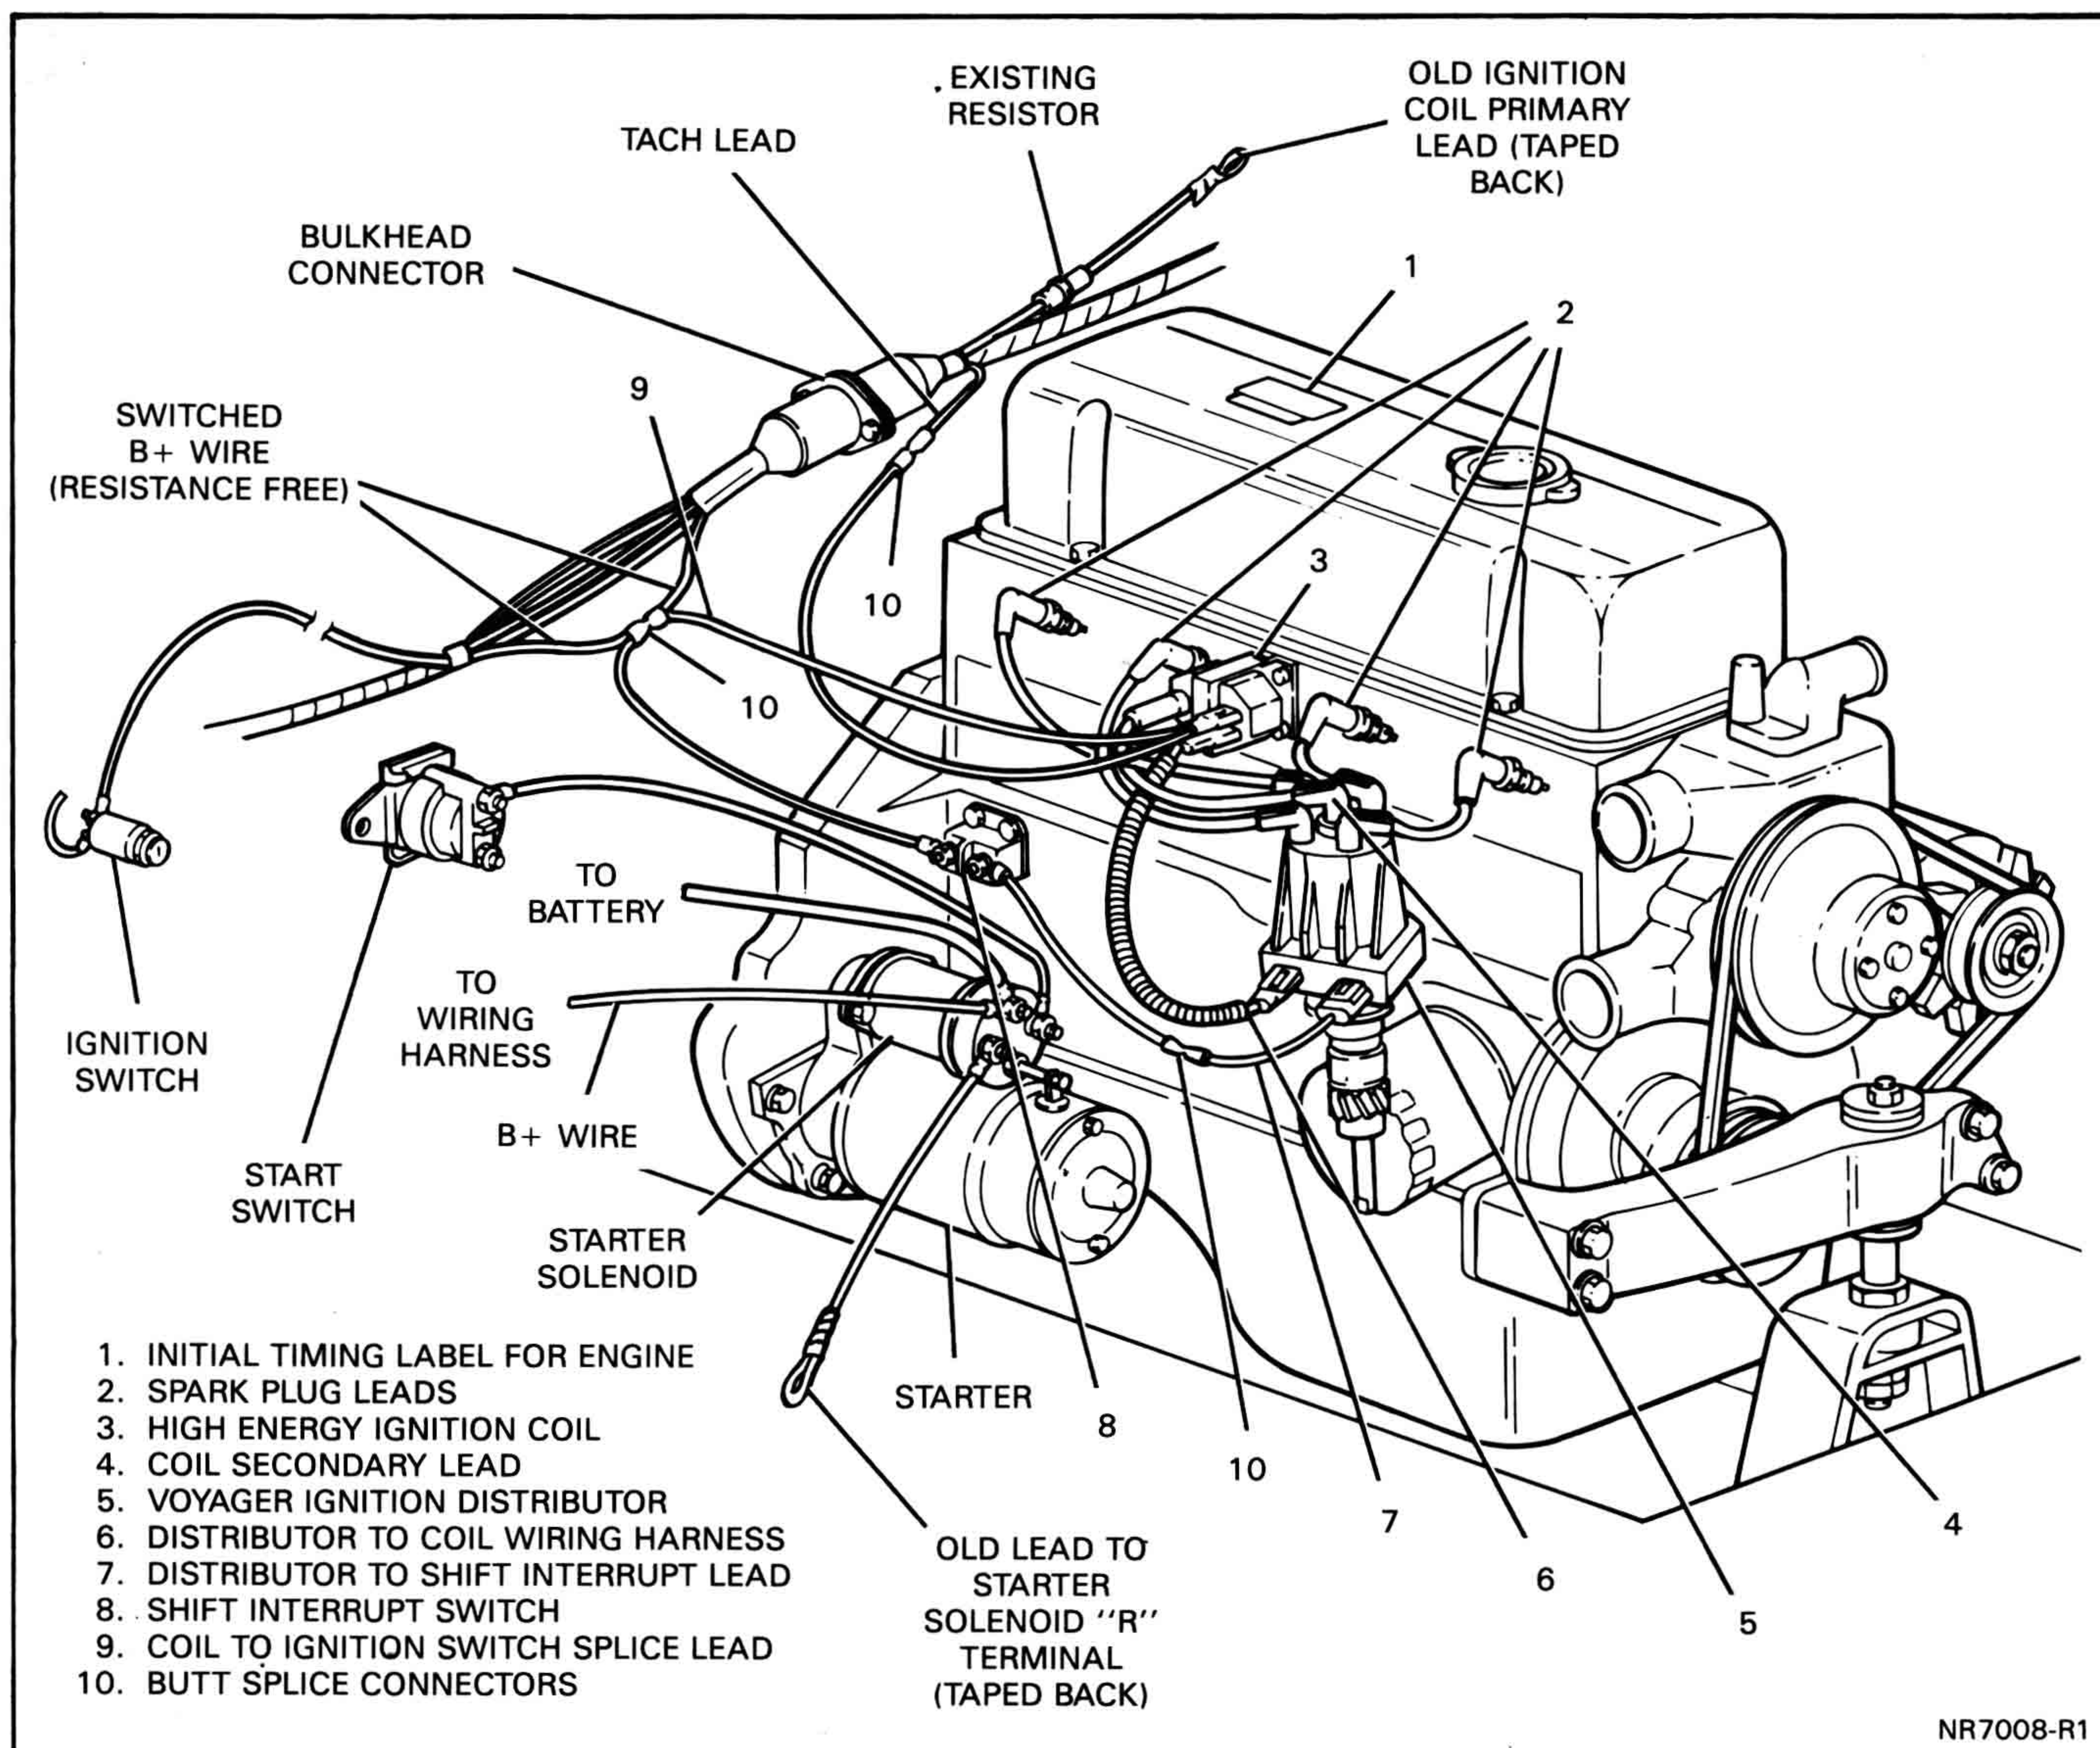

Figure 8 — Typical Delco Voyager Ignition System Wiring
25. Connect alligator clip on long lead of initial timing connector to convenient B+ voltage source, such as battery terminal on starter solenoid (see figure 8).